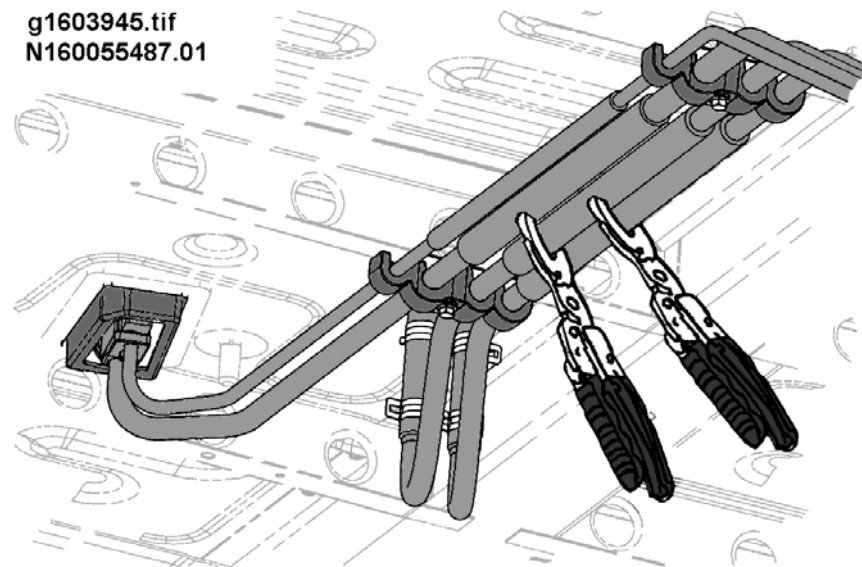

Figure 53 Heater/AC Lines Clamped Under Cab
1. Under the vehicle, use clamping pliers to pinch the rubber section of the rear heater lines closed. Place the clamps several inches from the metal/rubber joint. Refer to Figure 53.
2. Under the vehicle, use clamping pliers to pinch the rubber section of the rear heater lines closed. Place the clamps several inches from the metal/rubber joint. Refer to Figure 53.